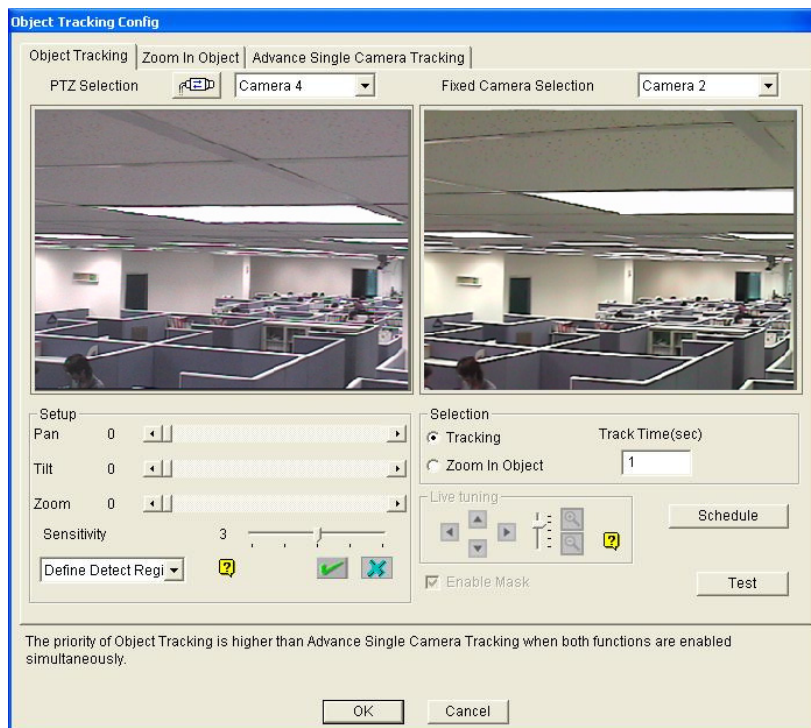

Figure 3-1
2. Choose the corresponding camera views of the PTZ and stationary cameras. In Figure 3-1, the images of the PTZ camera show in the Camera 2 view, while the images of the stationary camera show in the Camera 1 view.